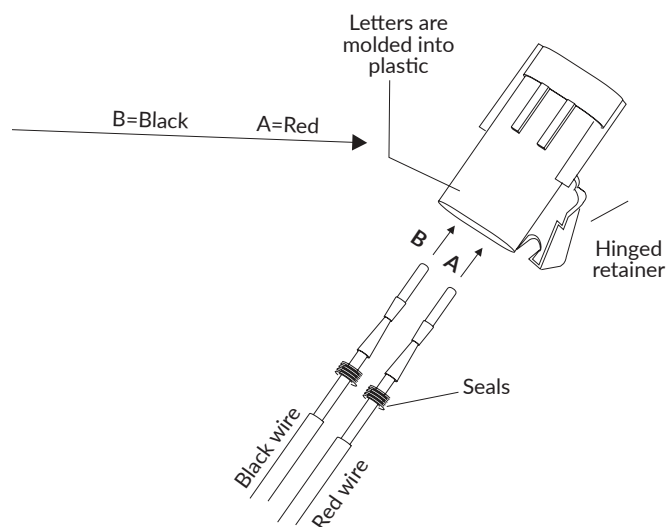

Figure 4-6
7. The connector is marked with an A and B. The A side is for the Red wire and the B side is for the Black wire. If wires are connected incorrectly, the lift will not operate correctly. **See Figure 4-6.**